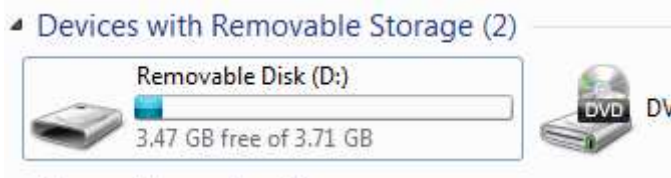

Figure 7 Mass Storage Device Demo - Removable Disk
2. Open a Windows Explorer window and navigate to "My Computer". A removable disk corresponding to the SD Card connected to FT90x EVM should be visible as shown in Figure 7.